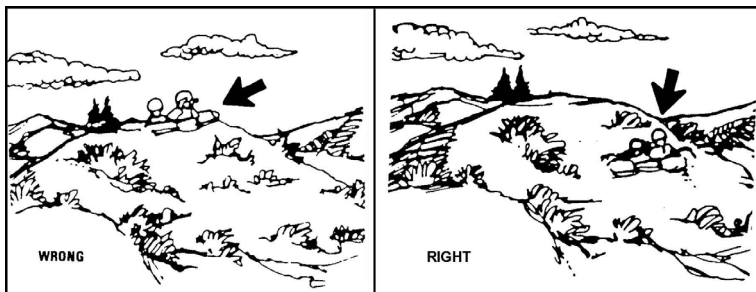

Figure 071-326-5705-1. OP position
b. Locate the OP on or near the military crest of a hill, if possible. Avoid topographical crests because of the chance of being skylined. When observation is restricted by the terrain, establishing the OP well down the forward slope might be appropriate (figure 071-326-5705-1).